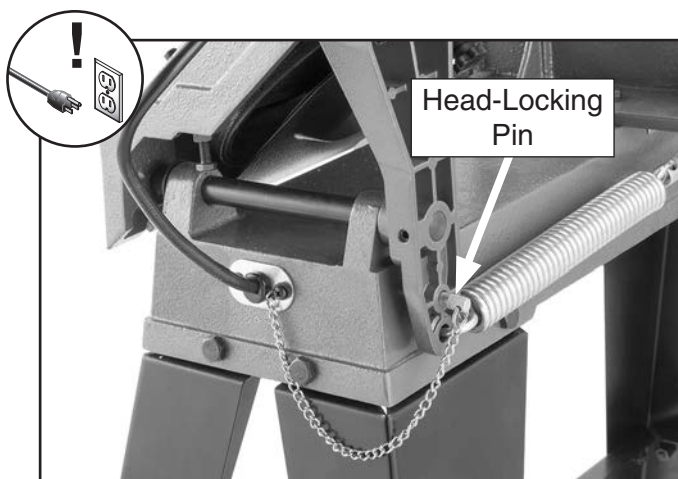

Figure 33. Head-locking pin correctly inserted.
2. Fully lower headstock down then insert locking pin shown in **Figure 33** through holes in headstock pivot arm and base.